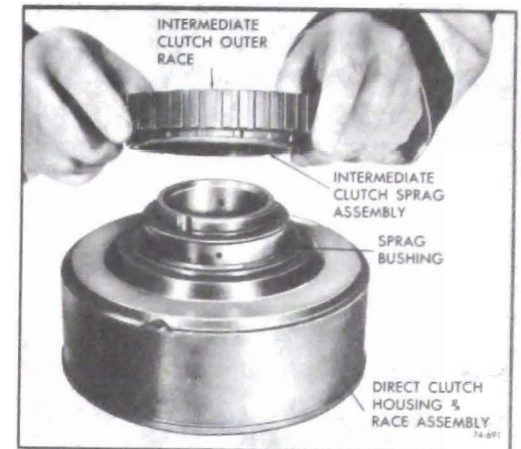

Figure 76-691
13. With ridge on inner cage facing down start sprag and outer race over inner race with clockwise turning motion. See Figure 76-691.